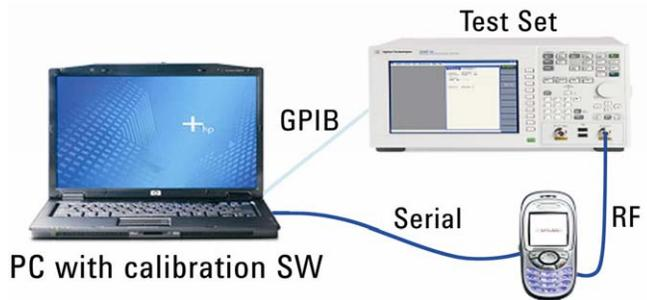

Figure 2: Diagram shows the 8960 Series 10 Wireless Communications Test Set, mobile phone, and PC controller interconnections.
To implement the Fast Device Tune measurement solution, a connection is made between the RF output of the mobile phone and the RF IN/OUT port of the test set. An intermediary controller (PC) running chipset calibration software is required to set up and control the Fast Device Tune measurement parameters and to control the mobile phone in transmitting its test signal waveform. Figure 2 illustrates a typical hardware configuration.